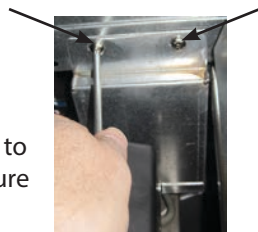

Figure 7
4. Remove the ignition module cover to gain access to the module (see Figure 7).